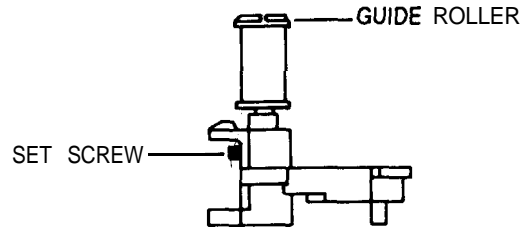

Fig. 12
6. Slightly loosen the set screw at the lower part of the S, T-guide rollers with a (Hex Wrench -0.9mm) so that the guide roller can be adjusted with reasonable tightness. (Refer to Fig. 12)